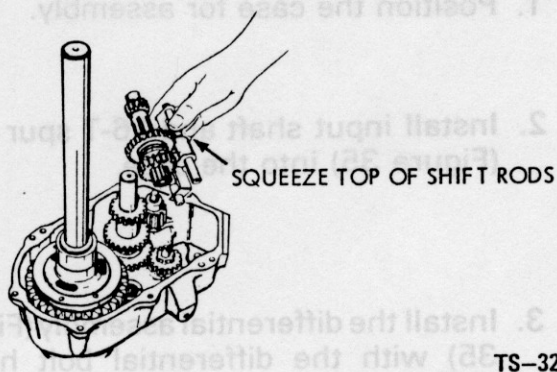

Figure 38 - Install Shifter Assembly
6. Install the shifter assembly (Figure 38) with the needle bearing end of the shifter shaft downward. The neutral slots of the shifter forks should align with the case opening.